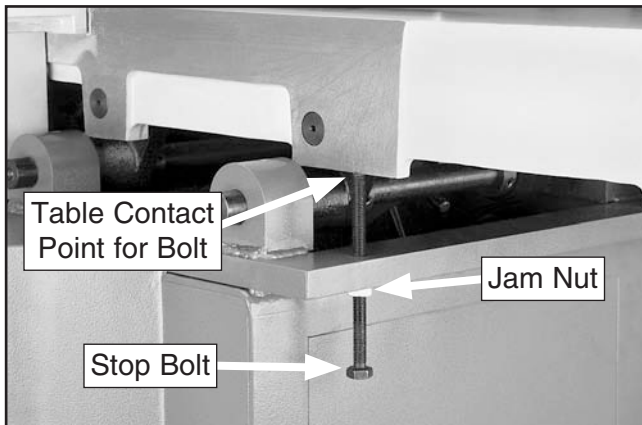

Figure 57. Infeed table stop bolt.
The infeed table on your jointer has a stop bolt (see **Figure 57**) that should be set to prevent the table from adjusting lower than $\frac{1}{8}$ " below the where the infeed table is even with the outfeed table. This is considered the "safe" maximum depth of cut for any single pass. Cutting deeper than this on a single pass increases the risk of kickback beyond a tolerable level.
2. Loosen the jam nut and stop bolt located under the table (see **Figure 57**). Make sure to back the stop bolt away from the area where it contacts the table. This will allow the table room to move during the adjustments in the following steps.